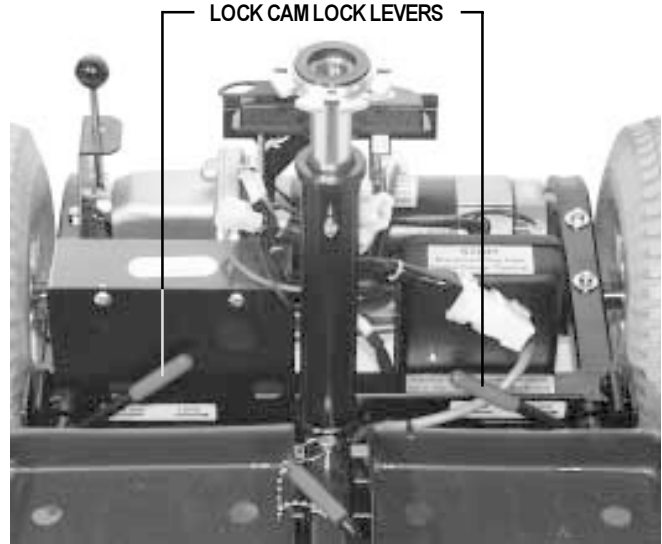

Figure 24. Lock Cam Lock Levers
6. Place the cam lock levers in the locked (horizontal) position. See figure 24.